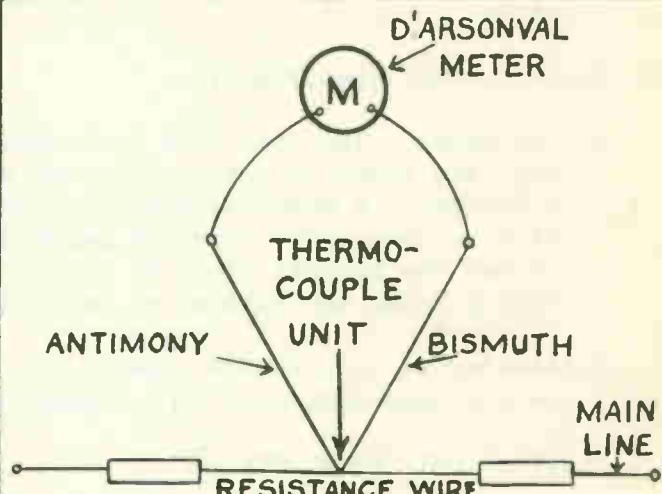

Fig. 11. Electrothermal type
- b. Electrothermal, Fig. 11 -- another way to change AC to DC so that a d-c meter can be used is by electrothermal action. The effect of either a-c or d-c current in the resistance wire heats the junction of the two unlike elements (thermo-couple).